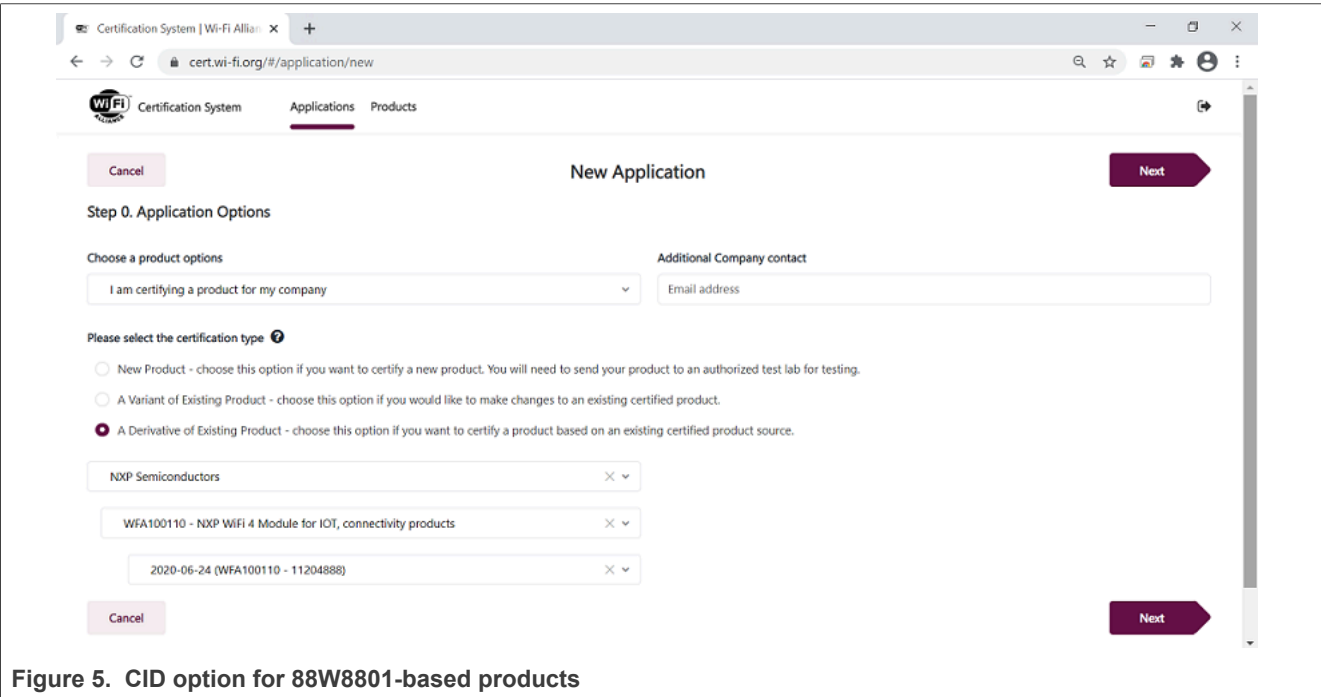

Figure 5. CID option for 88W8801-based products
- In the second drop-down list, select the CID for a product based on a Wi-Fi component. Figure 5 shows the list of CIDs based on 88W8801 product.